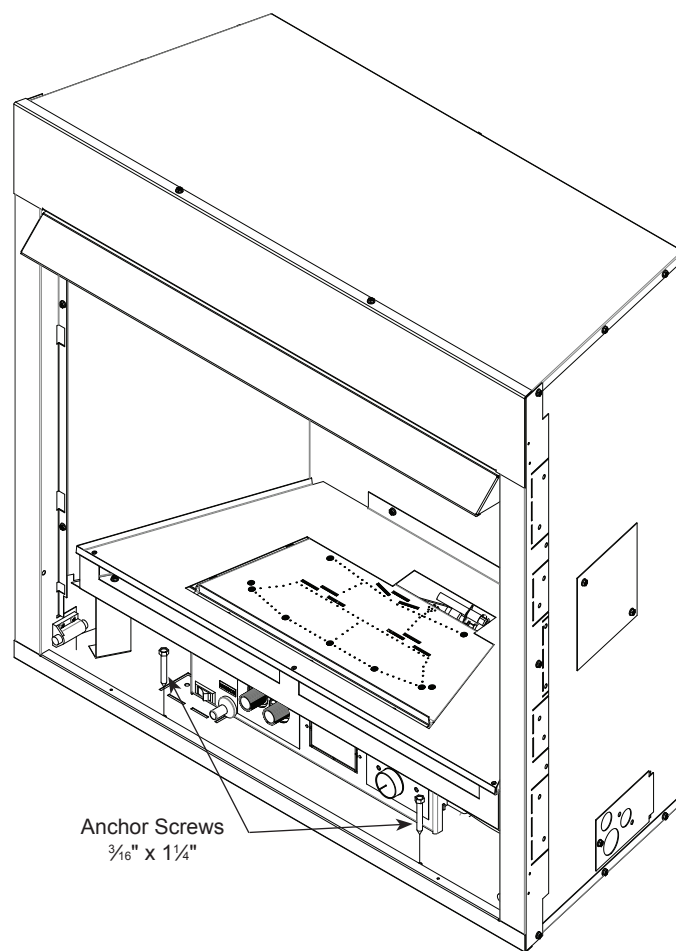

Figure 10. Secure Fireplace to Floor or Hearth
2. Secure the firebox with two anchoring screws ( $\frac{3}{16}$ " x  $1\frac{1}{4}$ " length) supplied with the fireplace system. Figure 10